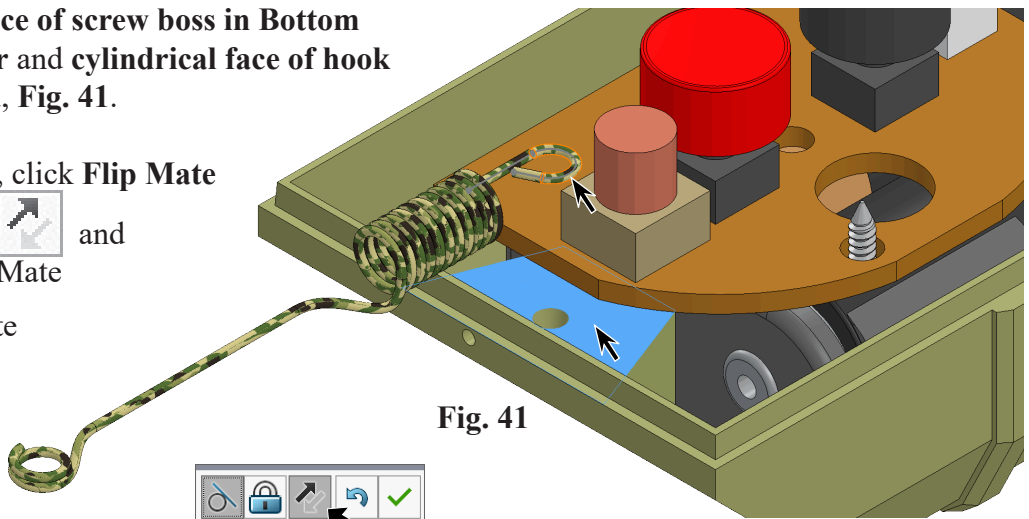

Fig. 41
Step 5. Click **top face of screw boss in Bottom Transmitter** and **cylindrical face of hook on Antenna**, Fig. 41.